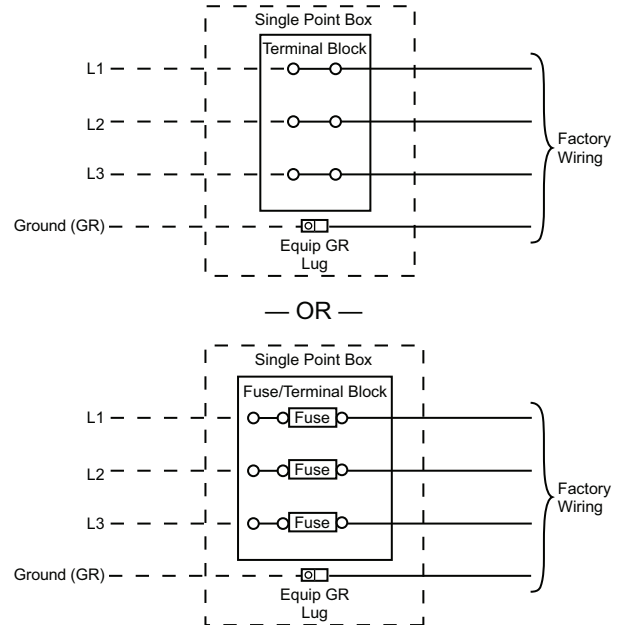

Fig. 18 — Power Wiring Connections
contactor IFC (see wiring diagram label for control box component arrangement) or at factory-installed option non-fused disconnect switch. Maximum wire size is #2ga AWG (copper only) per pole on contactors, #2ga AWG (copper only) per pole on optional disconnect, and 4/0 AWG (copper only) per pole on terminal or fuse blocks on units with single point box (see Fig. 17). See Fig. 18 and unit label diagram for field power wiring connections.
The factory-installed optional non-fused disconnect (NFD) switch is located in a weatherproof enclosure located under the main control box. The manual switch handle and shaft are shipped in the disconnect enclosure. Assemble the shaft and handle to the switch at this point. Discard the factory test leads (see Fig. 18).
All field wiring must comply with NEC and all local codes. Size wire based on MCA (Minimum Circuit Amps) on the unit informative plate. See Fig. 18 and the unit label diagram for power wiring connections to the unit power terminal blocks and equipment ground. Maximum wire size is #2ga AWG (copper only) per pole on contactors, #2ga AWG (copper only) per pole on optional disconnect, and 4/0 AWG (copper only)
per pole on terminal or fuse block on units with single point box. See Fig. 18 and unit label diagram for field power wiring connections.
2. Install power lines to terminal connections as shown in Fig. 18 on page 13.